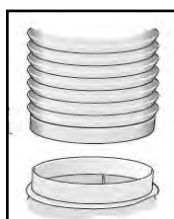

Fig. 6
Connection to exhaust air pipe (Fig. 6)
- Attach Ø150mm pipe directly to the air outlet and secure appropriately (Fig. 6).